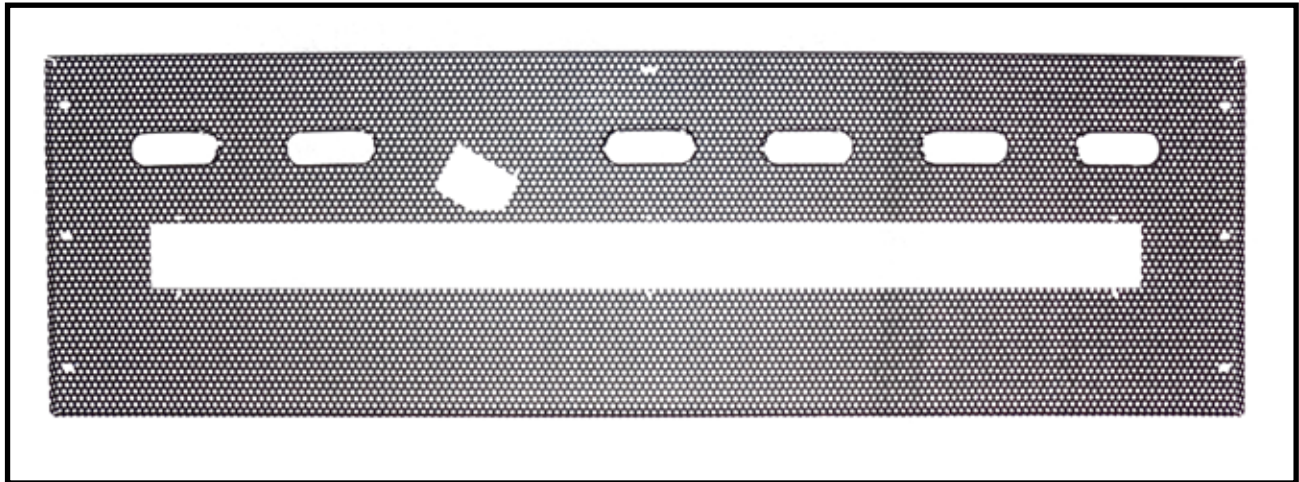

Figure 44: Glass burner tray.
1. Insert the glass burner tray (Figure 44) into the firebox (Figure 45). Take note of the cut out for the pilot assembly and orient the tray so that the air flow ports are facing up. The edges of these ports will prevent the glass media from falling down into the firebox. Secure the tray to the ledges on all four sides of the firebox with the supplied screws (Figure 46).